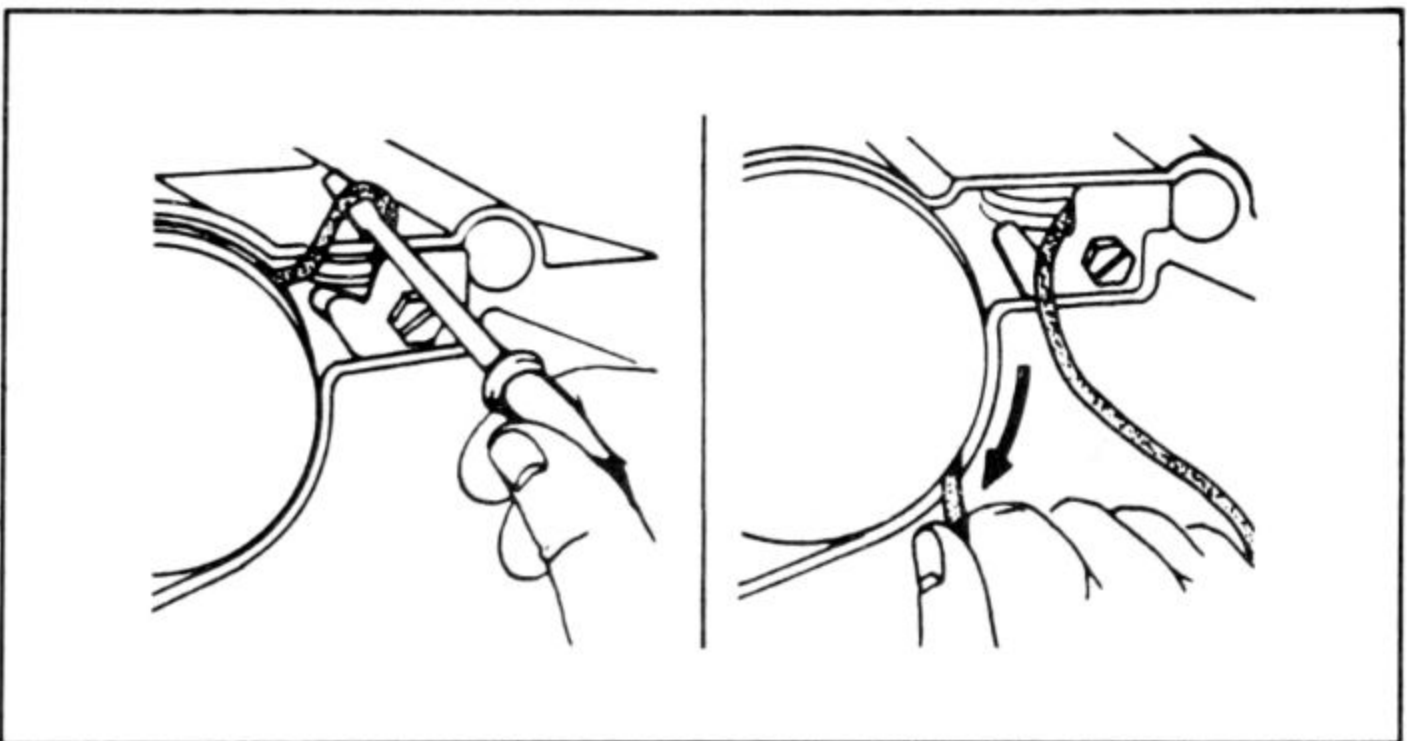

Fig. 4-29. Pretension requires two or three sheave revolutions using the rope for leverage.
10. Disengage 12 inches or so of rope from the sheave and, using rope for purchase, turn the sheave two or three revolutions clockwise to generate pre-tension. See Fig. 4-29.